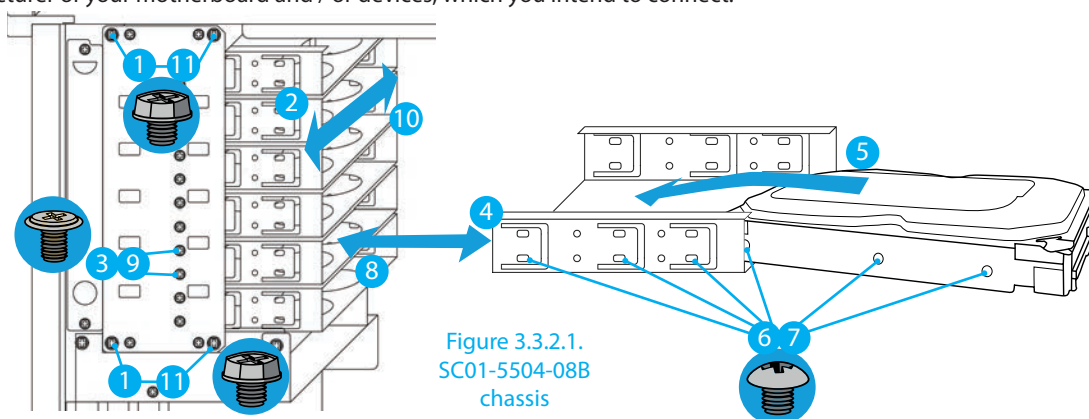

Figure 3.3.2.1.
### 3.3.2. SC01-5504-08B model (figure 3.3.2.1)
8. Place the tray back into the 3.5" internal bay (the exact opposite of the point 4) – Figure 3.3.2.1.